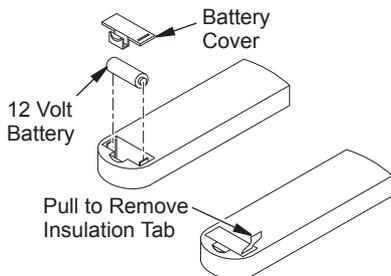

Figure 37 - Installing Battery in Hand-Held Remote Control Unit (SKYTECH)
5. Activate handset battery by removing insulating tab on back (see Figure 37).